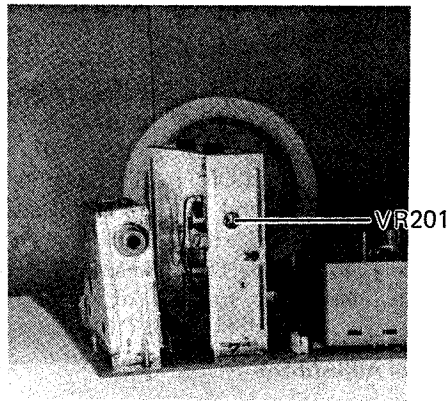

Fig. 7
- (1) Feed in a $60\text{dB}\mu$ standard color bar signal (peak value, 75Ω load), adjust tuning to obtain an optimum picture and set the receiver to normal mode by pressing the Memory button.
- (2) Connect a DC voltmeter to TP201 (RF AGC), and adjust VR201 on the VIF unit (See Fig. 7) to obtain a 7.0 V_{DC} reading at TP201 (RF AGC).